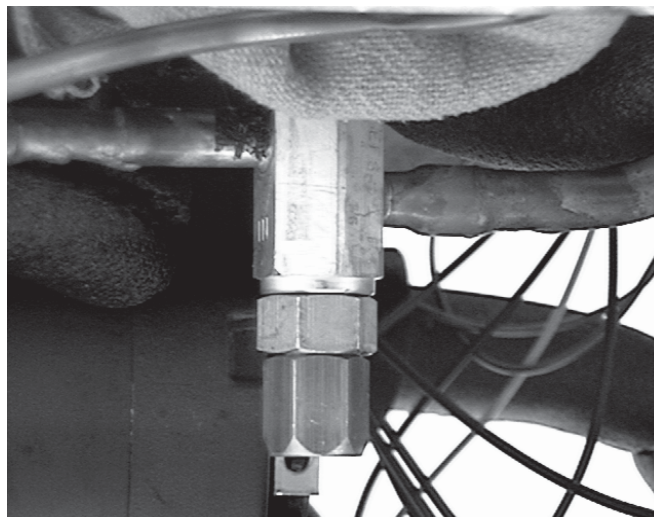

Figure 17. Heat Sink
- Apply a heat sink (wet cloth) to the valve dome. Figure 17.
1. Position the TXV with the heat sink so the liquid and suction line correspond with the proper valve ports. Figure 17.